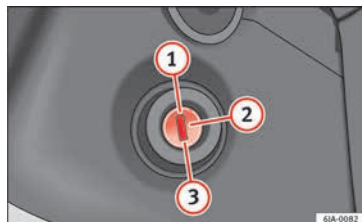

Fig. 172 Ignition key positions.
- When moving with the engine switched off, the ignition key must always remain in position **(2)** » » Fig. 172 » » page 154 (ignition on). The control lamps will light up in this position. Otherwise, the steering lock could engage suddenly. Risk of accident!
- The starter motor may only be used (key position **(3)** » » Fig. 172 » » page 154 in the ignition) if the engine is off. Using the starter motor when the engine is running could damage it.
- Press the clutch pedal all the way down and start the engine **③** » **Fig. 172** » page 154, without pressing the accelerator. Keep the clutch pedal pressed down until the engine starts.
- Release the ignition key as soon as the engine starts. The key returns to position **②**.
- If the engine does not start after 10 seconds, turn the key back to position **①**. Repeat the action after 30 seconds.
Stop the engine by turning the ignition key to position **①** » **Fig. 172** » page 154.